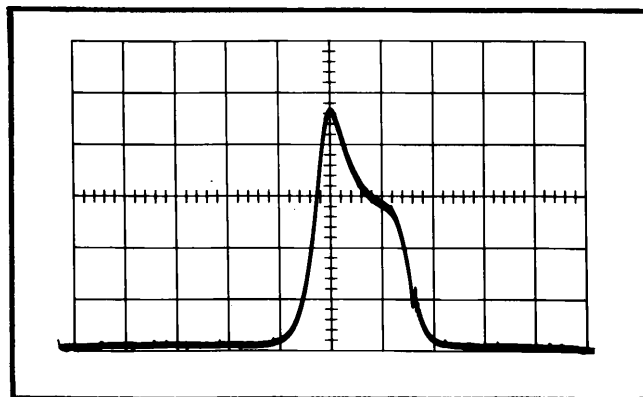

Fig. 6-9. Typical spectrum display for adjusting C610 (Step 4).
f. Adjust C610 for equal curves at the base of the spectrum display (see Fig. 6-9).